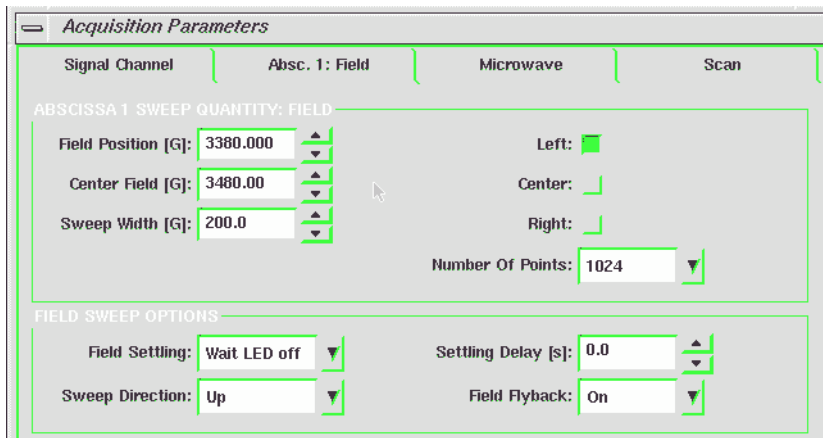

Figure 3-16 The magnetic field parameters.
7. **Check the Field parameters.** Click the Absc.1: Field tab. (See Figure 3-16.) Edit the parameters in the dialog box so that they match those shown in Figure 3-16.